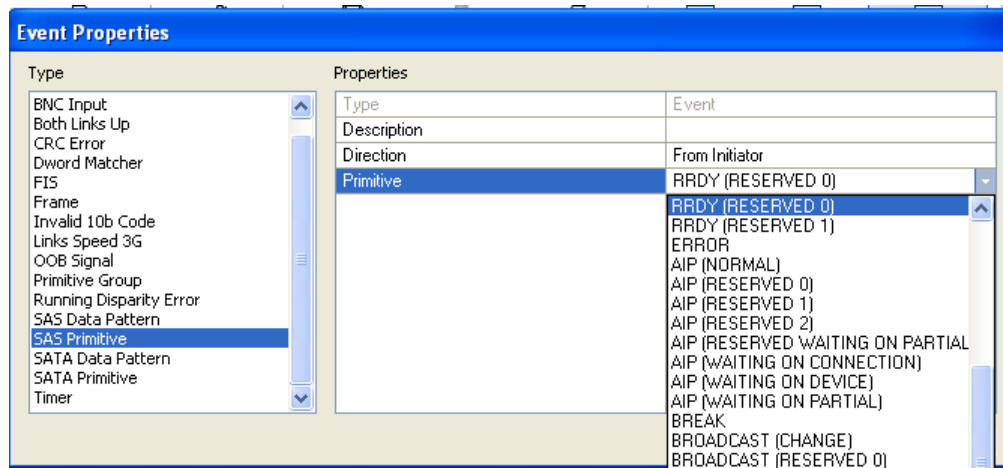

Figure 5.22 Example 4: Event Drop-Down List
Step 4 The Event Properties dialog box appears. Using the drop-down menu, choose **RRDY (Reserved 0)** as the second event to monitor (Figure 5.22).